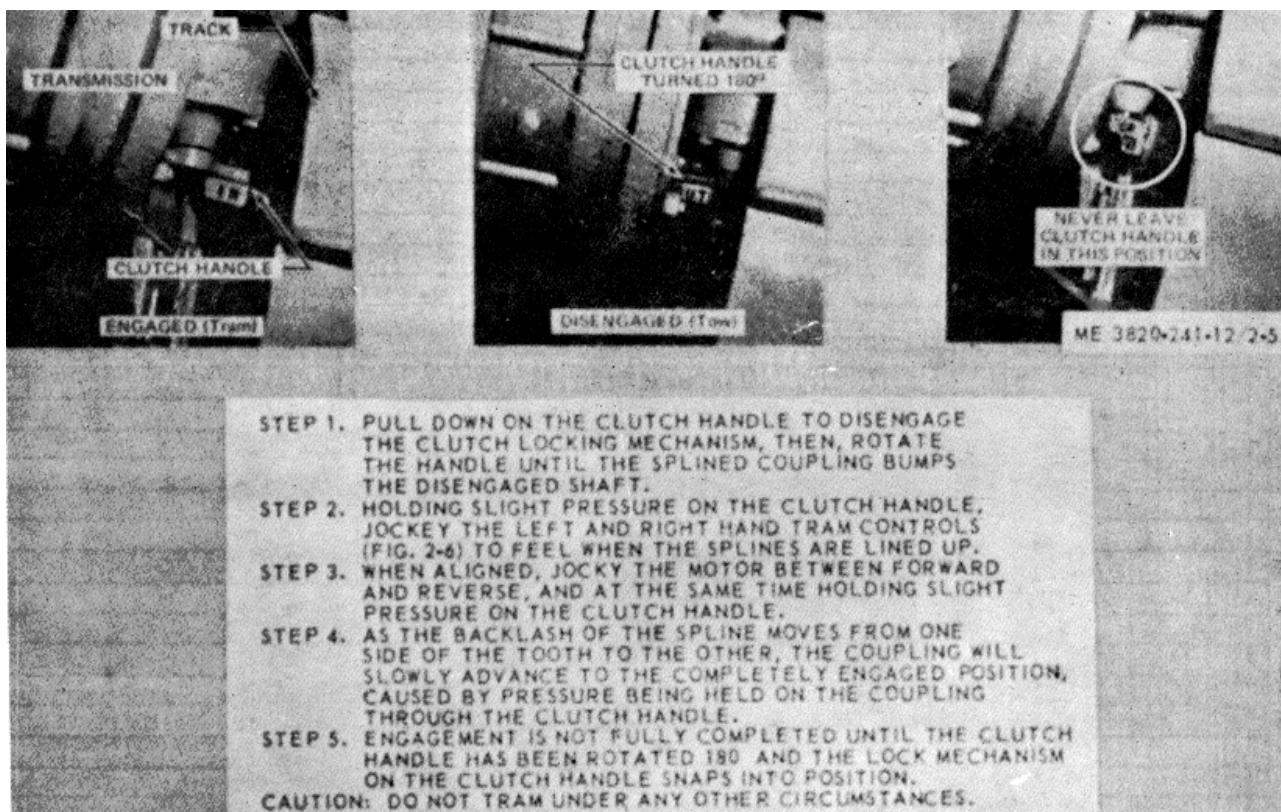

Figure 2-5. Engaging the rock drill for trammng.
(1) *Operation of Tram Clutch.* The internal clutch mechanism for each tram motor operates by a sliding, splined coupling that couples two splined shafts. When the coupling is all on one shaft, the tram motor is disengaged from the drive sprocket (towing position). When the coupling is half over each of the male splines, the gear train is in trammng position. There are no intermediate positions that are satisfactory. Figure 2-5 shows the proper engaged position, disengaged position, and the wrong position of the clutch handles.
(b) Engage the rock drill for trammng as illustrated in figure 2-5.
It is possible to tram the rock drill with the clutch partially disengaged as shown in circled view of figure 2-5. In this position, it is also possible for the clutch mechanism to slip out of engagement, allowing the drill to run away.
(b) Pull down the clutch "T" handle to clear the lock mechanism, then turn the handle 180° as shown in figure 2-5.